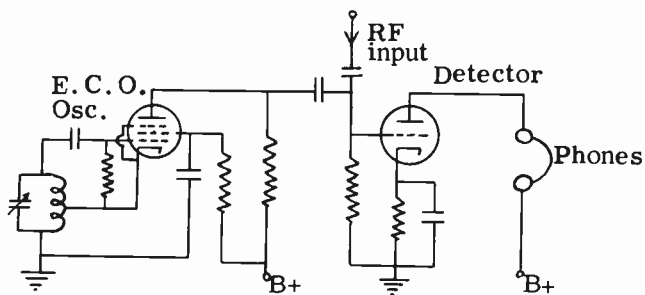

FIG. 18-5. COMBINATION HETERODYNE FREQUENCY METER AND MONITOR.
**THE HETERODYNE FREQUENCY METER.** The Heterodyne Frequency Meter is a rigidly constructed, accurately calibrated oscillator and detector. For stability, the oscillator is usually of the electron-coupled type. An additional crystal oscillator can be incorporated in the frequency meter to check and calibrate the heterodyne oscillator at various check points. Fig. 18-5 illustrates a simple combination heterodyne frequency meter and monitor.